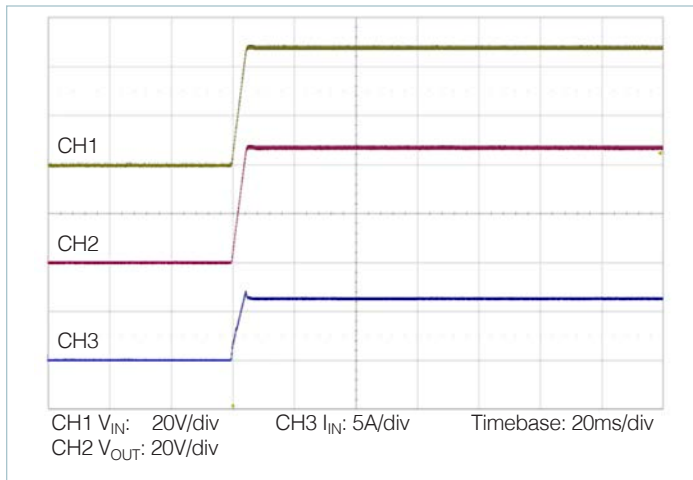

Figure 13 — Start up from application of V_{IN} ; V_C pre-applied $C_{OUT} = 100\mu\text{F}$
- **Normal operation (VC applied prior to V_{IN}):** In this case the controller is active prior to ramping the input. When the input voltage is applied, the VTM module output voltage will track the input (See Figure 13). The inrush current is determined by the input voltage rate of rise and output capacitance. If the VC voltage is removed prior to the input reaching 26V, the VTM may shut down.